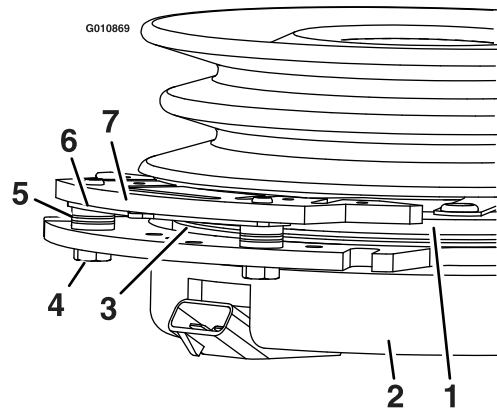

**Figure 71**
3. Remove the dust cap from caster and tighten the locknut (Figure 71).
4. Tighten the locknut until the spring washers are flat, and then back off a 1/4 turn to properly set the preload on the bearings (Figure 71).
**Important:** Make sure that the spring washers are installed correctly as shown in Figure 71.
5. Install the dust cap (Figure 71).